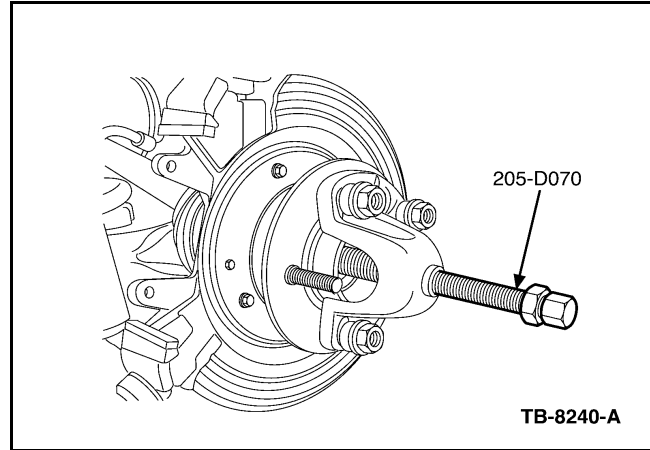

Figure 3 - Article 05-25-8
8. Using the Special Tool 205-D070 (D93P-1175-B), or equivalent, press the outboard CV joint until it is loose from the hub (Figure 3).